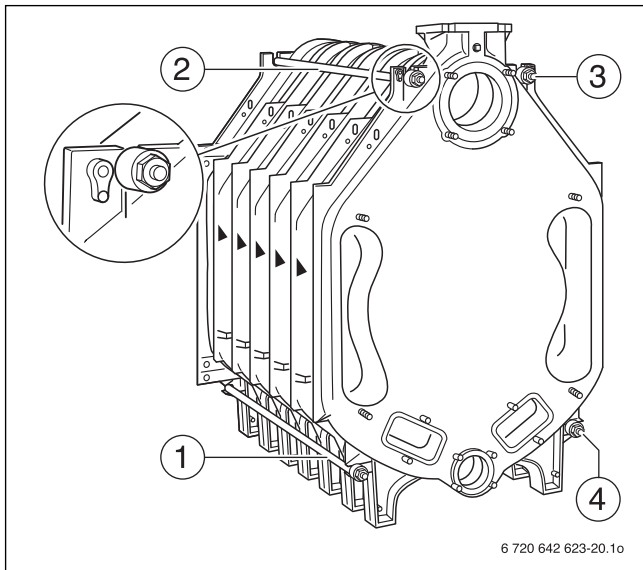

Fig. 22 Fitting the tie rods
- ▶ Insert the tie rods (with spring packs fitted) into the cast lugs on the top left and right, and bottom left and right, next to the boiler hubs (→ Fig. 22, [1 to 4]).